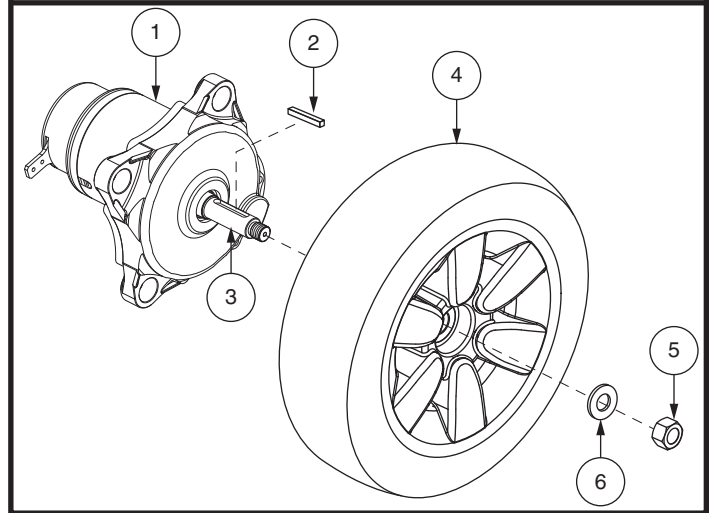

Figure 23. Drive Wheel Removal
6. Remove the drive wheel nut and washer from the axle. **See figure 23.**
12. Reinstall the drive wheel nut and washer onto the axle and tighten. **See figure 23.**